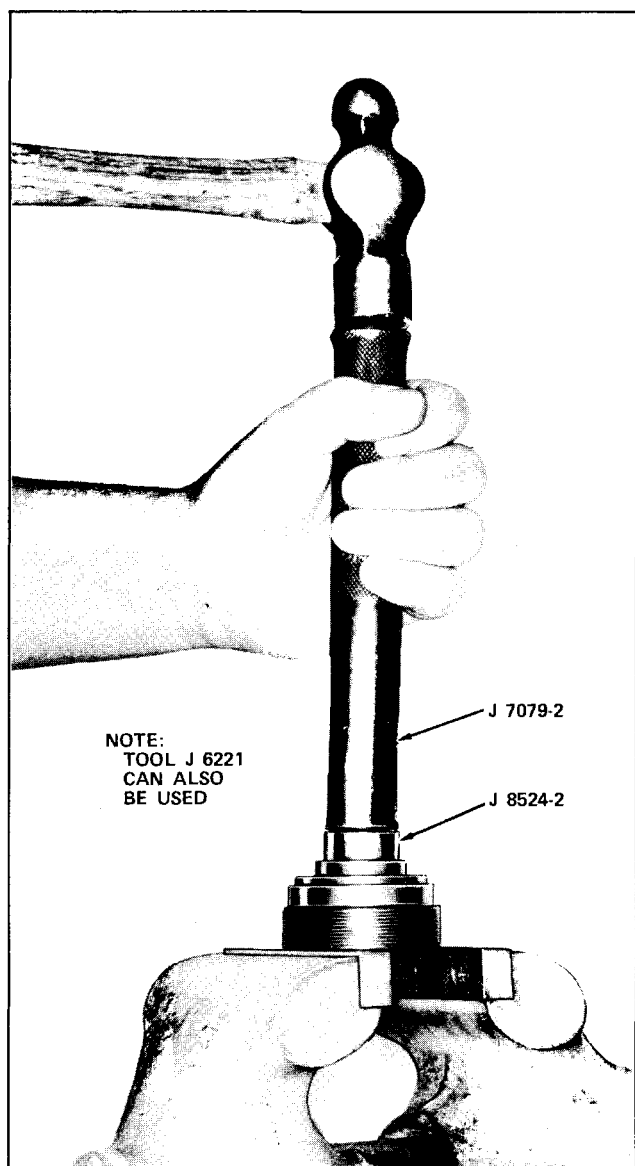

Fig. 9-88 Removing Bearing and Seal
- c. Drive needle bearing, dust seal and oil seal from adjuster plug using bearing remove J 8524-2 and driver J 7079-2 as shown in Fig. 9-88.